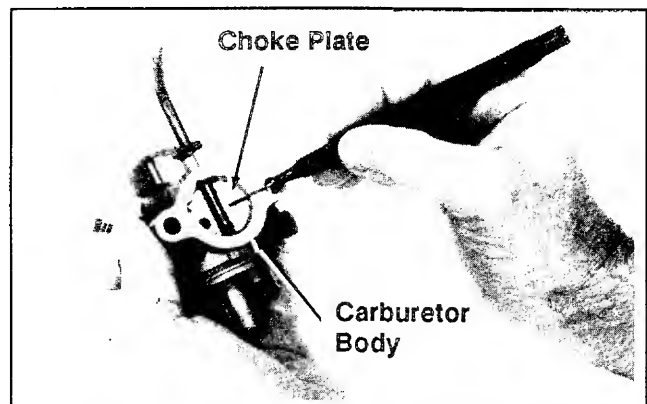

Figure 5-5. Marking Choke Plate And Carburetor Body.
1. Because the edges of the choke plate on CH5 are beveled, mark the choke plate and carburetor body to ensure correct reassembly. See Figure 5-5.